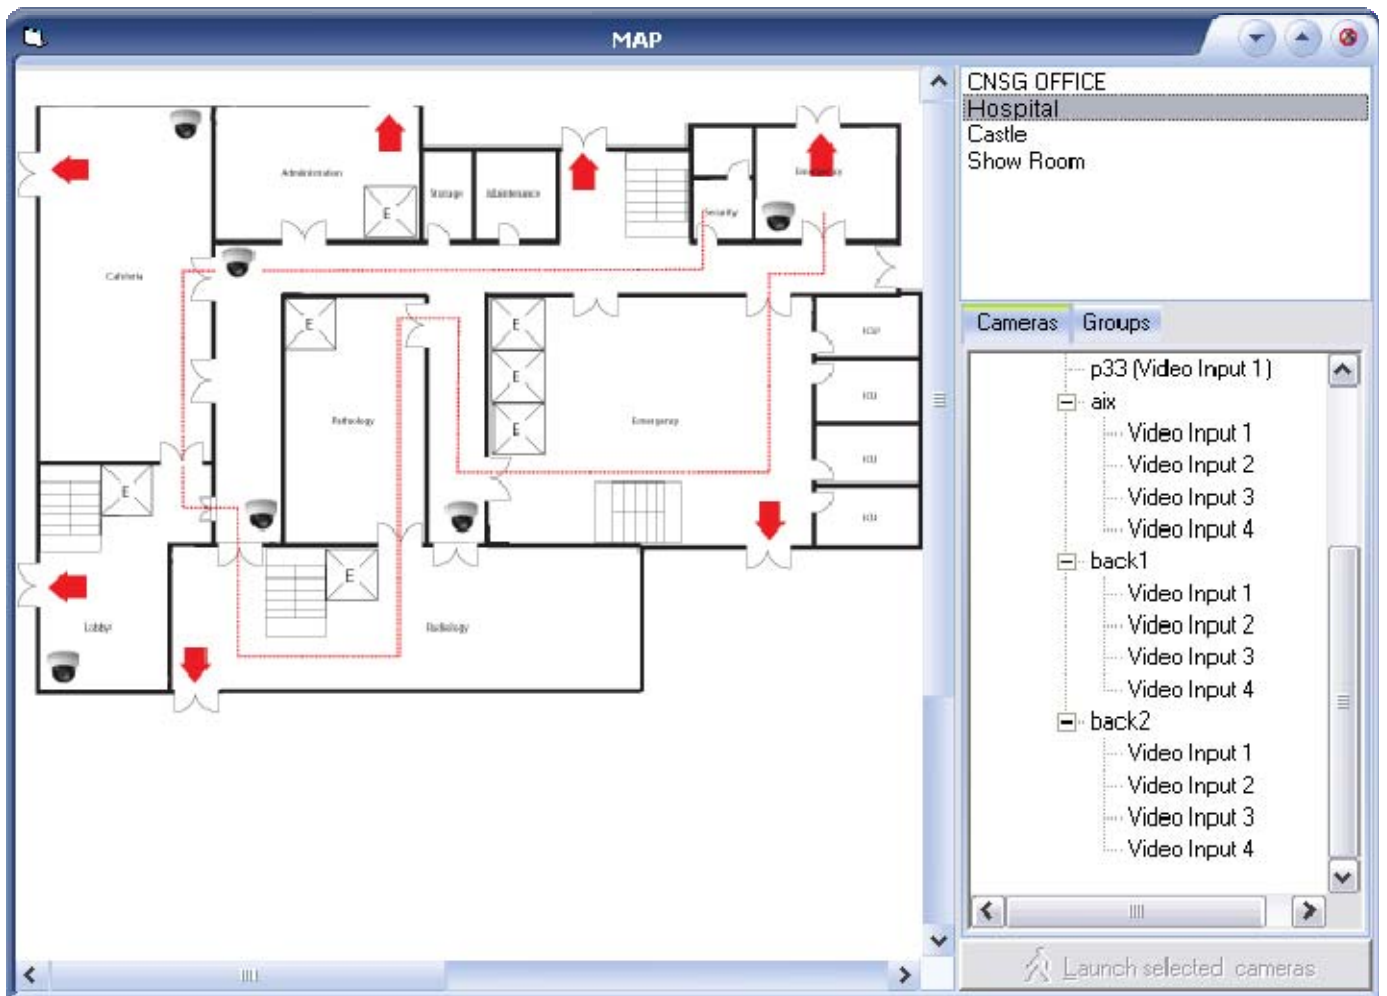

Fig 34. DETEXI Client — Map Page
2. Select a location map from the **top right** list. The **Cameras** list is also provided (*cameras, positioned on the selected map*) (Fig 34).